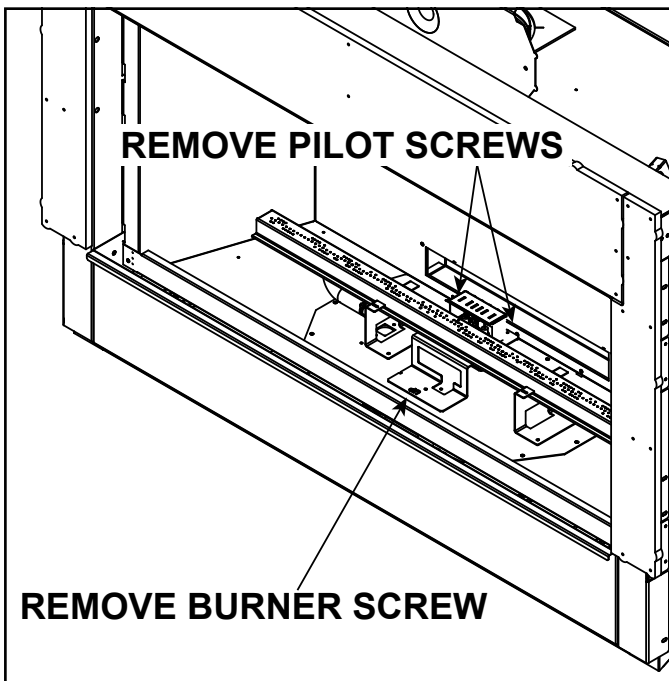

Figure 9.2 Burner Removal
3. Remove the screw that secures the burner bracket to the valve plate. See Figure 9.2. Gently push the pilot assembly backwards to allow for the burner to be removed.